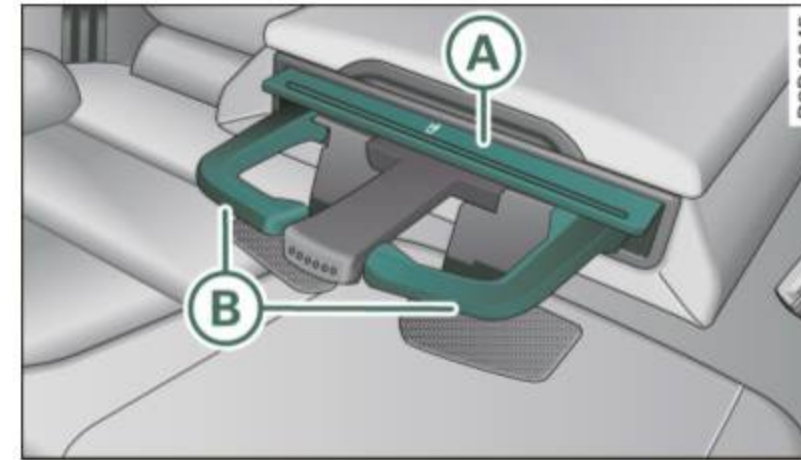

Fig. 115 Rear center armrest: cupholder extended
- Press both spots marked with  ⇒ fig. 115 ⇒ . The holder extends.